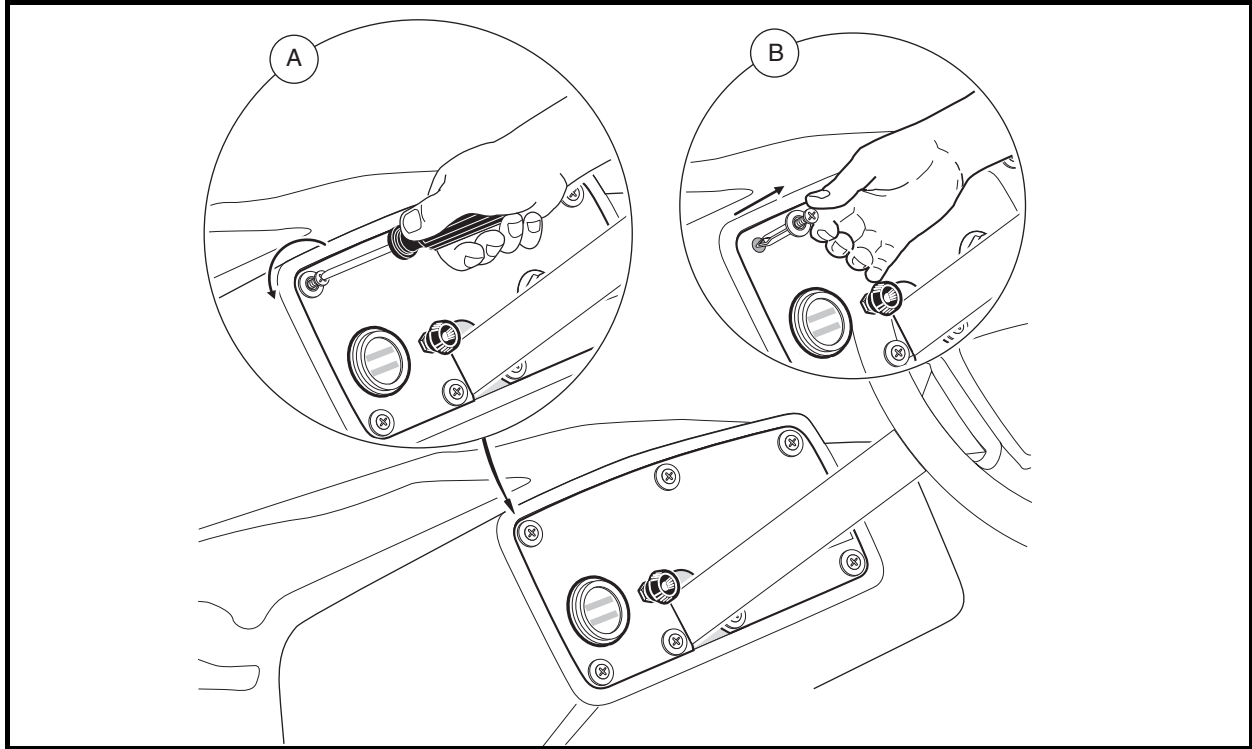

Figure 12-19 Center Dash Panel Removal
- 3.1. Loosen seven Tuflok screws, but do not remove screws completely, as shown in Detail A (**Figure 12-19, Page 12-15**).